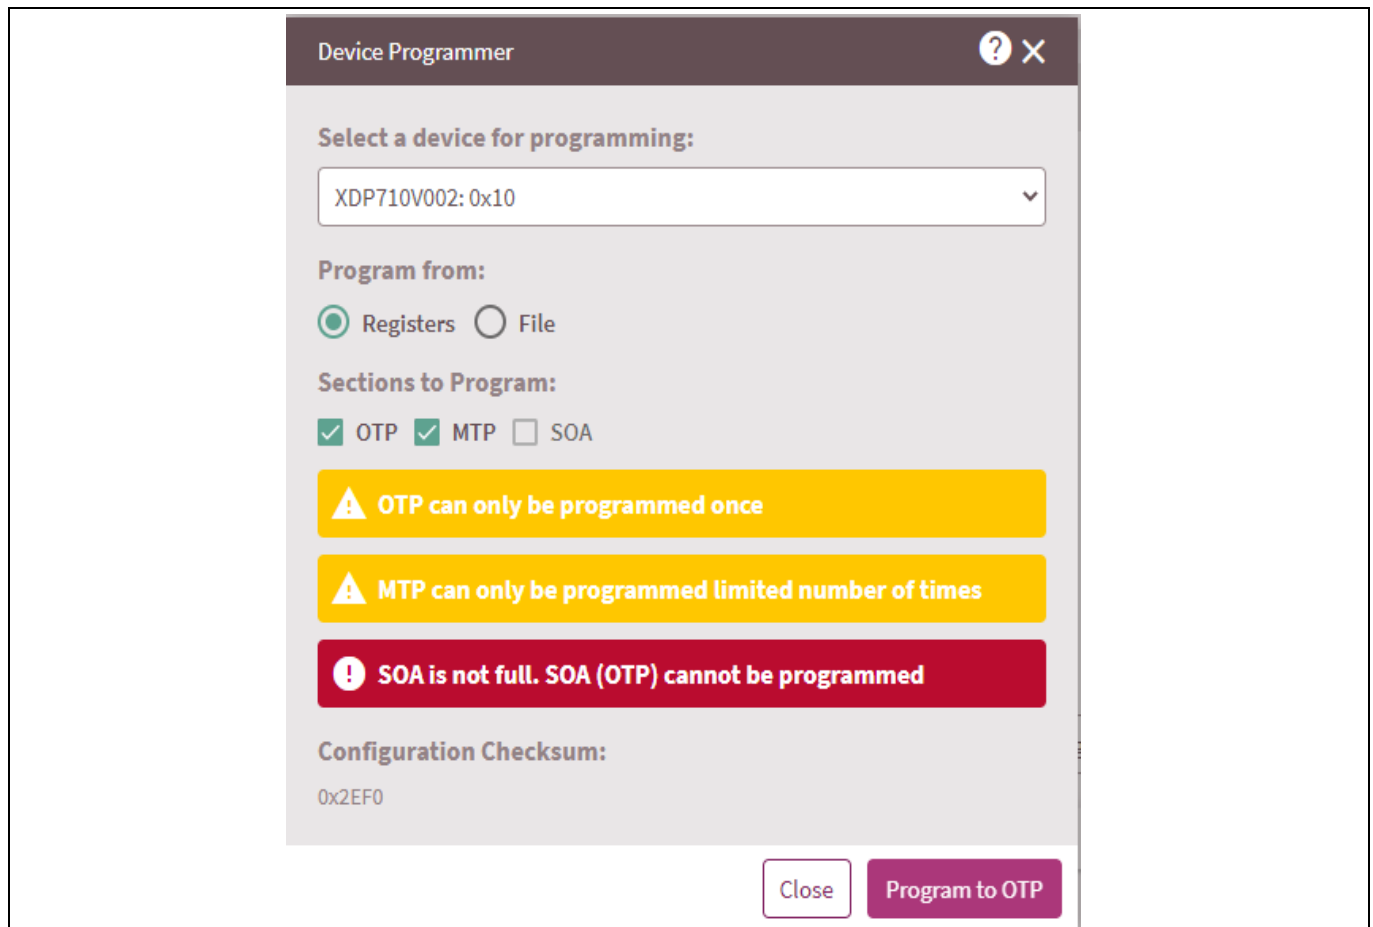

Figure 45 OTP and MTP programming
3. Set the program from **Registers**, select the memory section that needs to be programmed and then click **Program to OTP**, as shown in Figure 45.